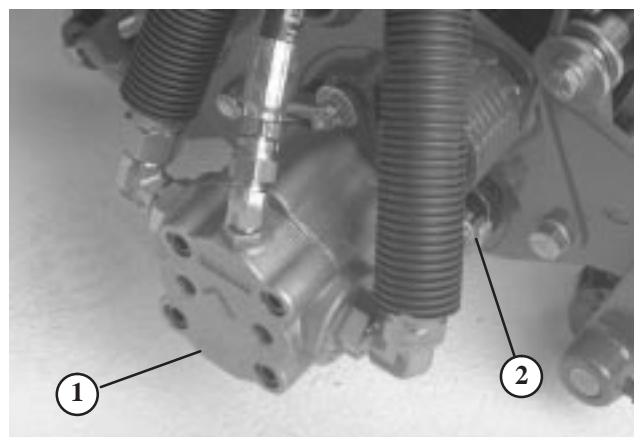

Figure 10
9. Assemble the mounting nuts for the reel drive motor to each cutting unit (Fig. 10). Leave approximately 1/2 in. of threads exposed on each mounting stud.